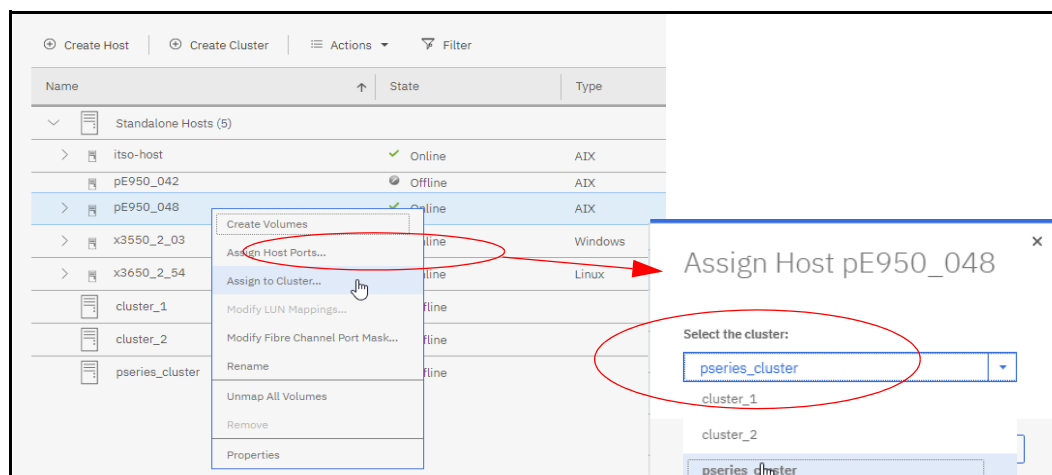

Figure 9-60 Assigning a host to a cluster
2. Either right-click, or from the Actions tab, select **Assign to Cluster**, as shown in Figure 9-60.